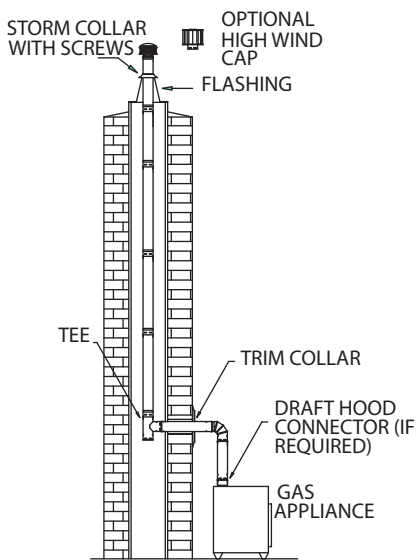

Figure 30
1. Description. A masonry chimney should be relined with B-Vent when venting a Category I gas appliance, such as a gas fireplace insert or freestanding gas stove, or to improve the venting and reduce condensation of existing gas appliances which are currently venting into the masonry chimney. These instructions encompass two general configurations: (1) A gas fireplace situated inside an existing masonry fireplace (**Figure 24**) or (2), a freestanding gas appliance venting into an existing masonry chimney. (**Figure 30**)
followed, particularly in regards to distances from combustible surfaces. Refer to **Figure 30**.
(c). **Tee.** A Tee is installed at the bottom end of the assembled vertical Pipe Sections, as shown in **Figure 30**. The Tee has a removable Tee Cap at the bottom, for cleaning and condensate removal. If the configuration of the building permits it, a clean-out access gate is recommended.
to obtain a specific location for the appliance. Make a mark on the horizontal Pipe Section flush with the vertical face of the masonry, for referencing the vertical position. Slip a Pipe Collar over the horizontal Pipe Section and install the remaining fittings as shown in Figure 30. A minimum of 12 inches of connector rise is required.